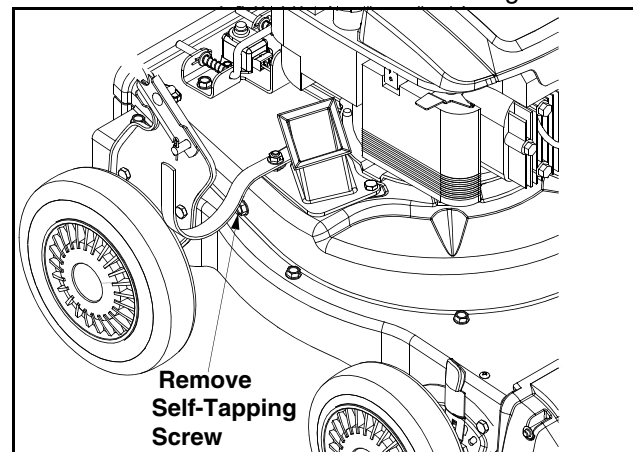

Figure 16
- Remove self-tapping screw on right side of unit that attaches to the flail screen. See Figure 16.